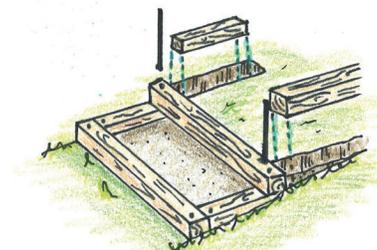

Figure 5
STEP 8. Build second step. To build the next step, measure from the front of the first riser timber and mark the tread depth on the side timbers with a pencil. Align the front of the second step riser timber with the pencil lines on the side timbers of the step below. Secure the riser timber to the side timbers using 12" galvanized spikes (Figure 5). To make it easier to drive the galvanized spikes into the timber, you can pre-drill holes to about 5" deep.
STEP 9. Excavate side timbers. Set and anchor side timbers by driving the steel rebar through the drilled holes on the end of each timber into the ground (Figure 5).